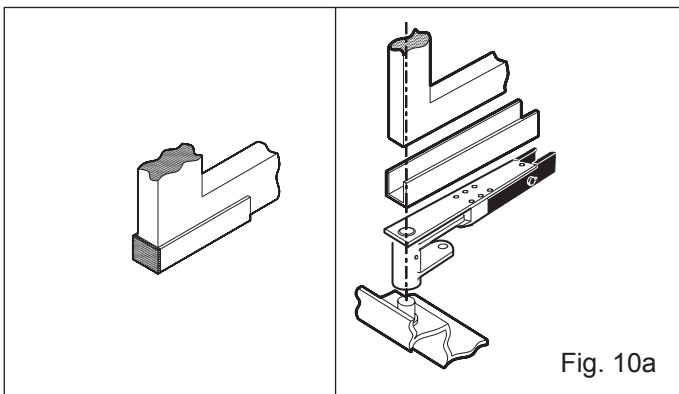

Fig. 10a
- Determine the correct location of the leaf on the "U" profile with reference to the axis of rotation (Fig. 10a and 10b);
- Seal the "U" profile on the post side with a plate, as shown in Figs. 10a and 10b.